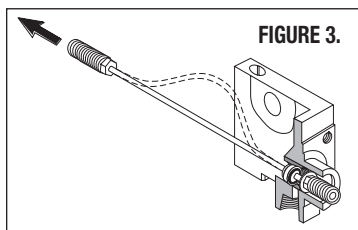

FIGURE 3.
1. Holding onto cylinder Head (6), string Bracket Terminal (8) through Gland (5) until Washer (4), U-cup (16) and Washer (2) are held flush against one another by Piston Terminal (1).
2. Put a small amount of slack in Cable (7) as shown in Figure 3.
3. Impart a “snap” action to Bracket Terminal (8).
4. With the imparting “snap” action, Washer (2) will snap into Gland (5).
5. Move the cable in the opposite direction as shown in Figure 3, to verify if Washer (2) is seated in Gland (5). If not, repeat steps 1-4.